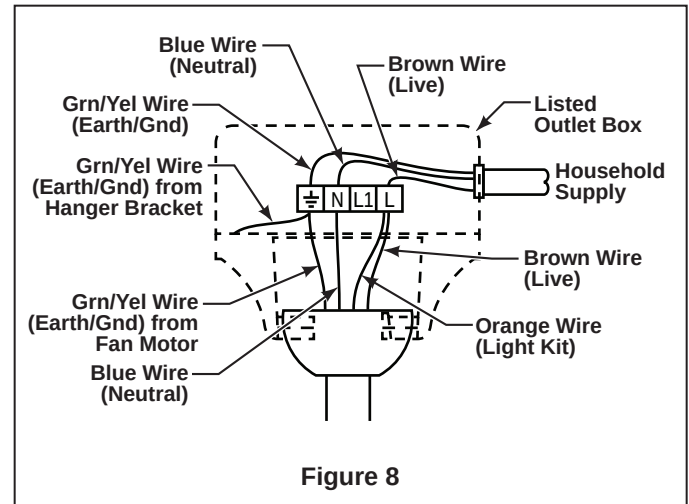

Figure 8
2. Securely connect the blue fan motor wire to the blue supply (neutral) wire using wire connector supplied. Securely connect the brown fan motor wire and orange wire to the live supply (normally black but marked as a live supply with red sleeving) (Figure 8). Make sure all connections are secure.